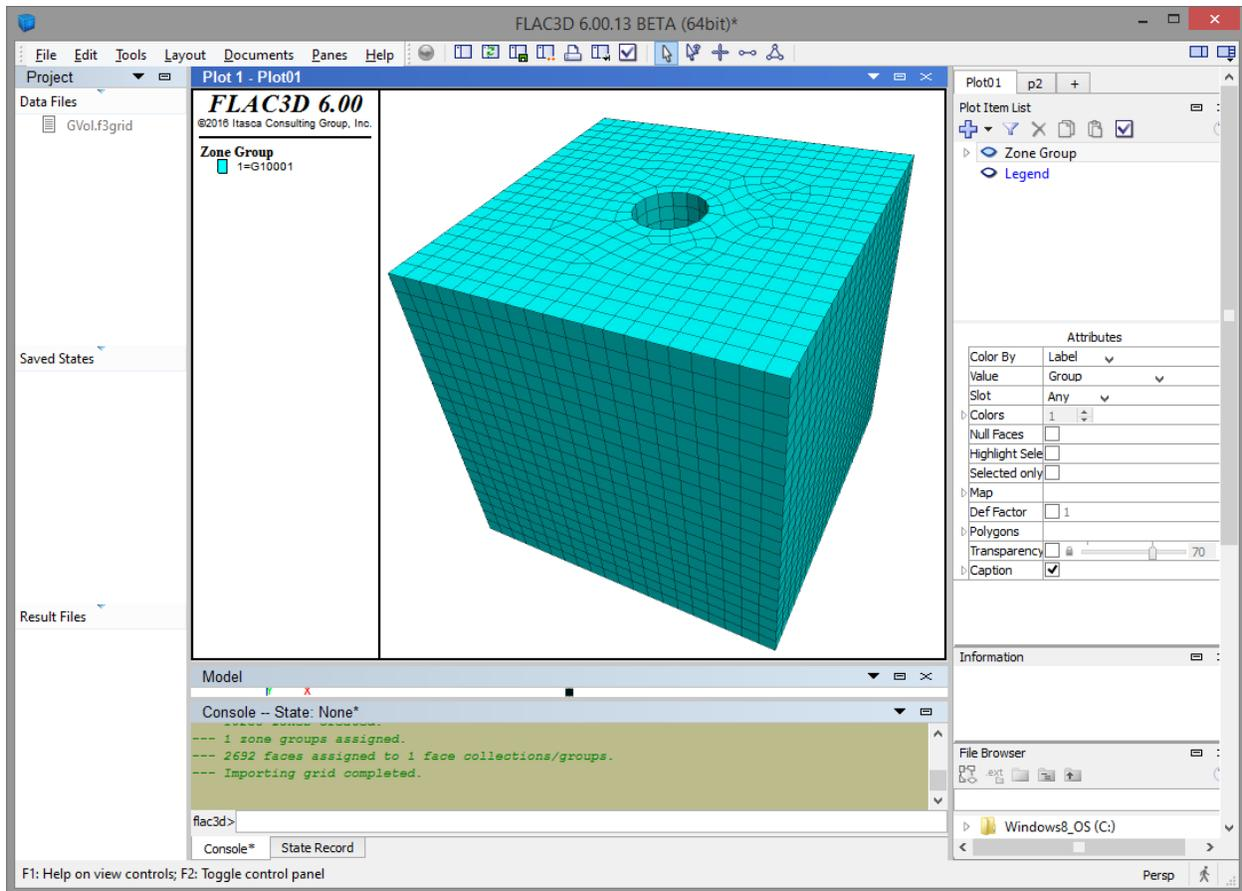

Figure 42: *FLAC3D* grid of a cylindrical shaft in a box.
- In *FLAC3D*, import GVol.f3grid using File|Import Grid. Your grid should be similar to that shown in Figure 42.